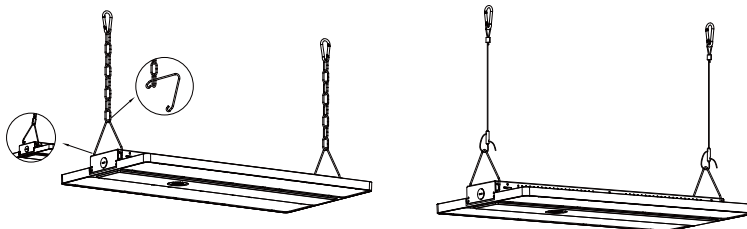

Figure 1
Step 1. Hook up the chain; (Figure 1)
Step 2. Connect the chain with fixture; (Figure 1)
Step 3. Fix the chain on the rail, adjust the chain length as per need; (Figure 1)